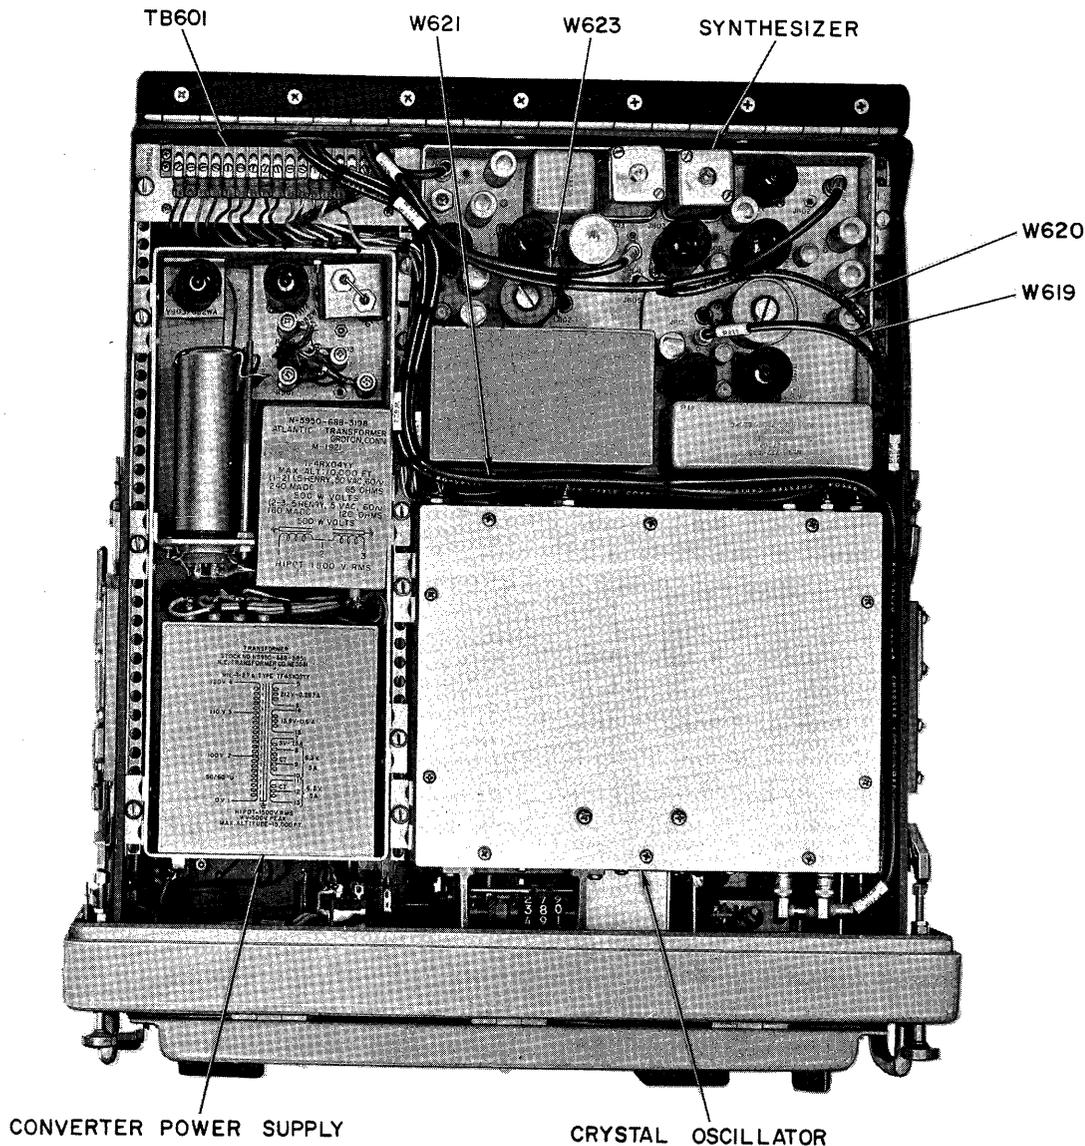

Figure 6-4. Converter Drawer, Upper Deck, Top View
(a) REMOVAL OF CRYSTAL OSCILLATOR SUBASSEMBLY. (See figures 6-4 and 6-5.)
(1) Set the synthesizer subassembly into place at the top of the upper deck in accordance with figure 6-4, and secure the subassembly to the upper deck.
(2) Connect plug P801 of coax cable W616 to jack J801; P804 of coax cable W623 to jack J804;